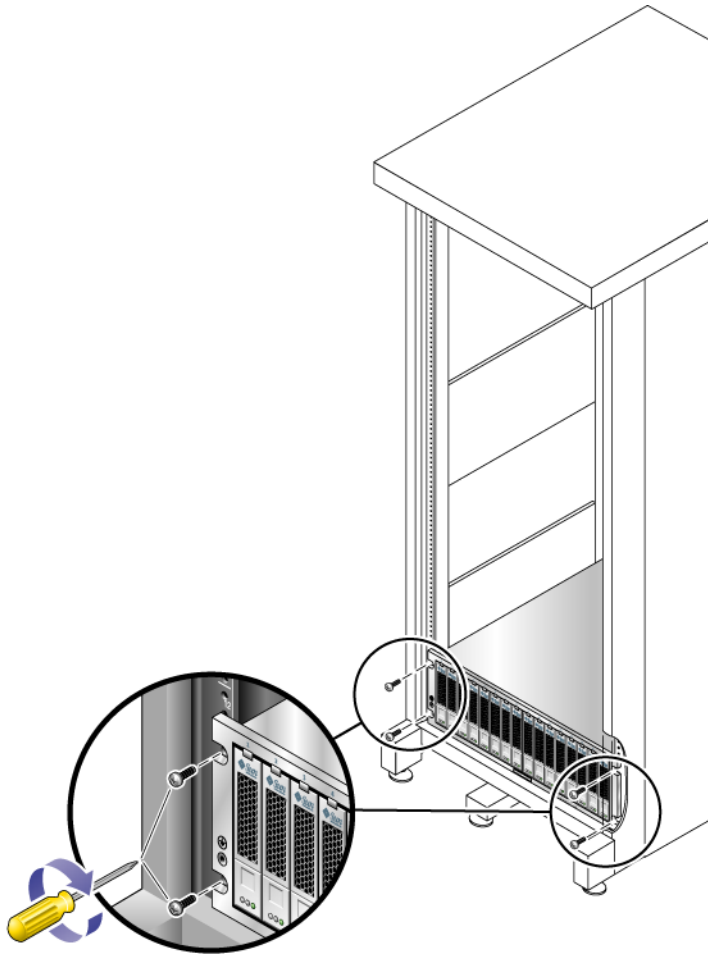

FIGURE 2-9 Securing the Unit to the Front of a Sun Rack 900/1000 Cabinet
3. Use the No. 3 Phillips screwdriver to install and tighten four M6 screws (two per side) to secure the tray to the front of the cabinet (FIGURE 2-9).